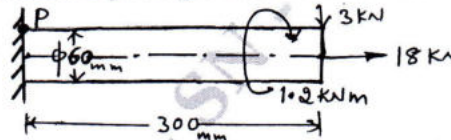

Fig.Q1(c)
- c. A machine member 60mm diameter is subjected to combined loading as shown in Fig.Q1(c). Determine the maximum principal stress and maximum shear stress at point P.